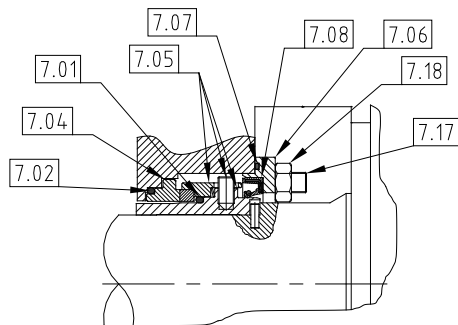

Figure 42
- Refer to Figure 42 for Single flushed mechanical seal for CP50.